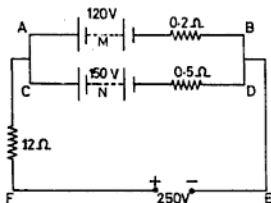

Fig. NE 9.30
- 9.30 Two batteries M and N are connected to a 250 V dc supply for charging through a $12\ \Omega$ resistance as shown in Fig. NE 9.30. Battery M is of emf 120 V and internal resistance $0.2\ \Omega$ and battery N of emf 150 V and internal resistance $0.5\ \Omega$. Find :